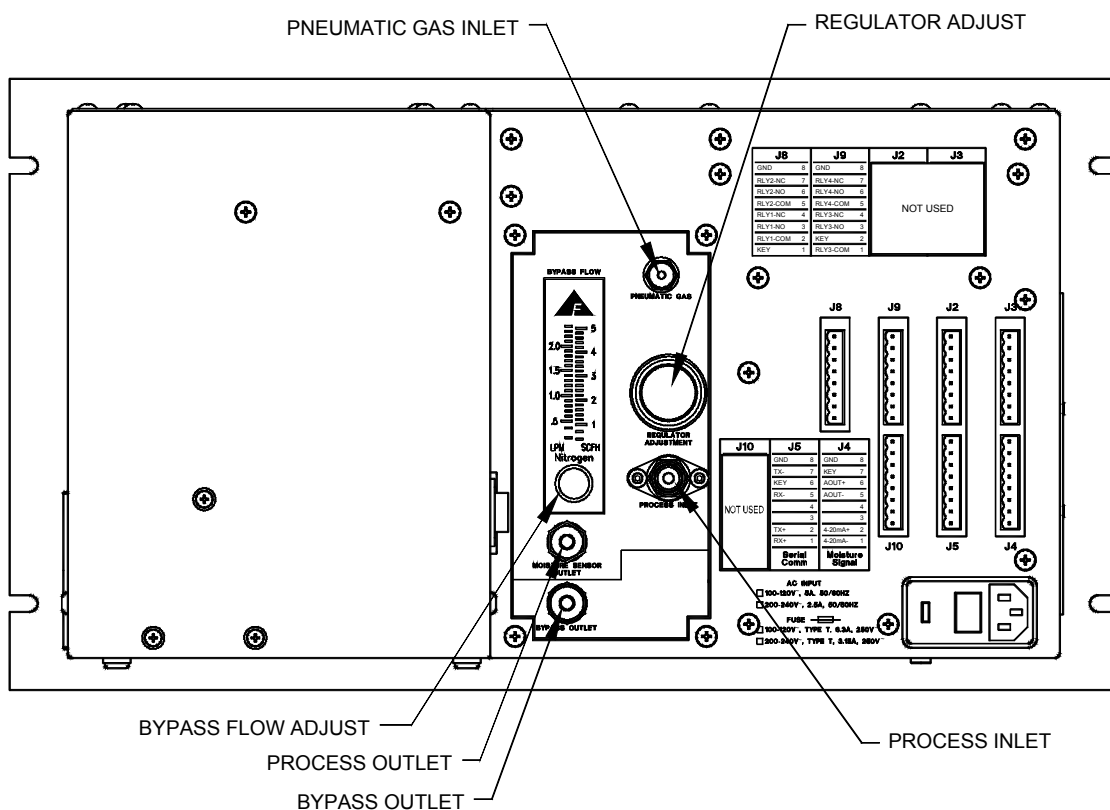

Figure 5: Rear Gas Connections and Controls with Optional Gas Panel
The pneumatic gas connection (required for the optional gas panel) is a 1/8 inch compression fitting as shown in Figure 5 and requires 70 – 125 psig air or N2 pressure. For ease of installation, the pneumatic feed line can be connected directly to the 1/4 inch aspirator source by way of a 1/8 inch adapter.
- b. Open the flowmeter bypass valve on the rear of the analyzer and flow in the bypass loop will be indicated on the flowmeter. Adjust the flowmeter bypass valve to 0.5 slpm. See Figure 5.